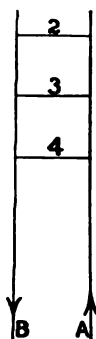

Fig. 162.
divides as these. For instance: between the two leading wires or "leads," Fig. 162, so large that the resistance along these between the cross wires may be neglected without sensible error, let there be three shunt wires having 2, 3, and 4 ohms resistance respectively. How will a current of 26 amperes divide over these shunts?
4. What is the combined resistance between the leading wires represented in Fig. 162?